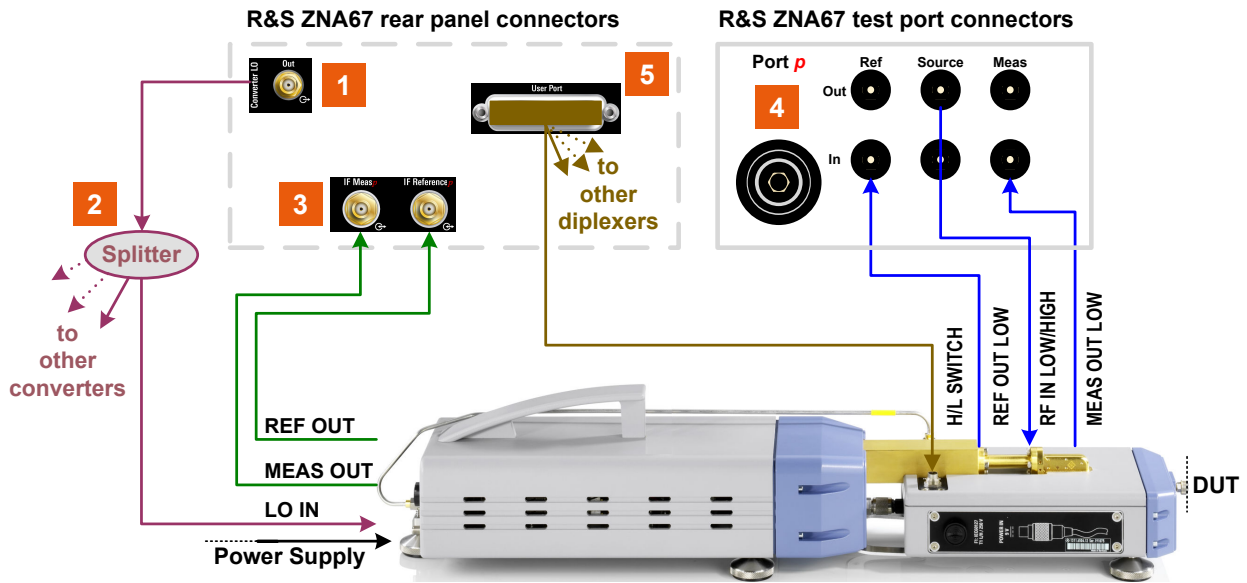

Figure 8-5: Connections of external test set *p* (system variants 02 to 07)
3. Connect the RF input and output connectors of the diplexers and the frequency converters as shown in Figure 8-5.